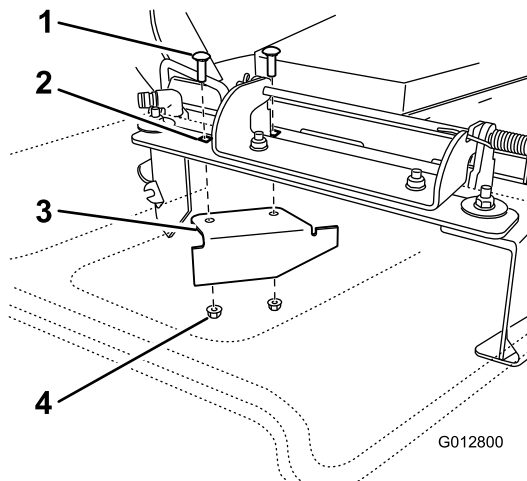

Figure 35
11. Locate the cut off baffle in the loose parts bag. Remove the fasteners at the rear holes of the discharge plate. Install the baffle at the side discharge opening on the mower deck (Figure 35).